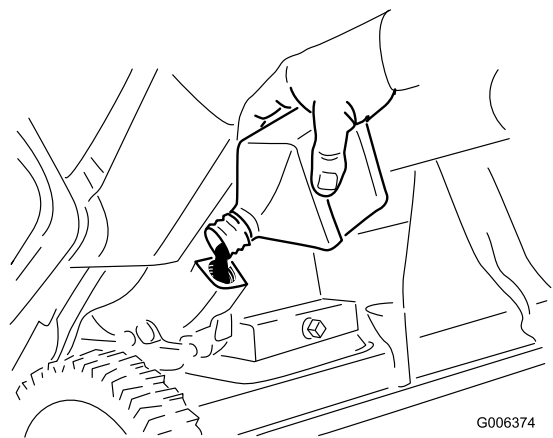

Figure 33
8. With the machine in the operating position, **carefully** pour oil into the oil fill hole. Wait 3 minutes for the oil to settle and add enough to bring it to the point of overflow. There should be very little, if any, oil left in the bottle (Figure 33).